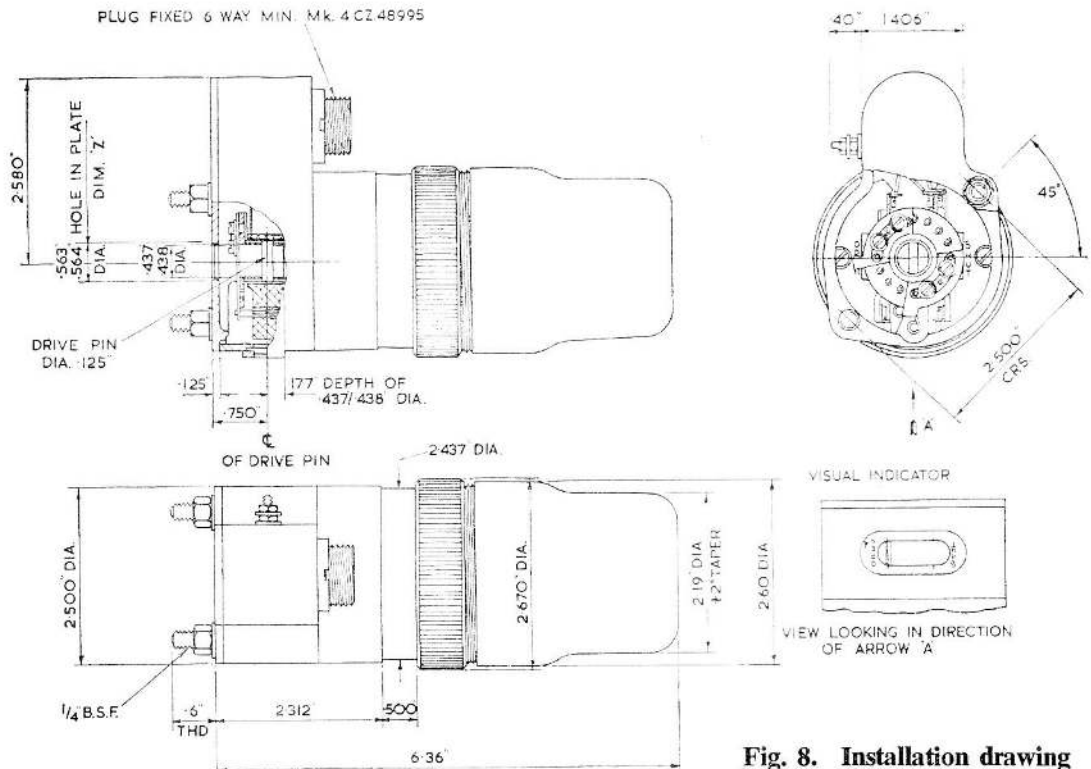

Fig. 8. Installation drawing
21. Installation drawing of the CZ82570/5 actuator is shown (fig. 8).